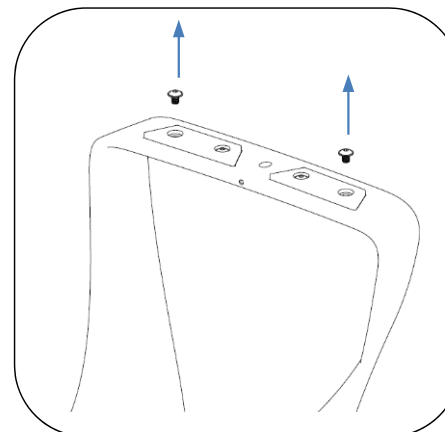

Fig. 5 – Remove screws from bench glides for embedding
2. Remove one screw from each glide pad as shown in Fig. 5.